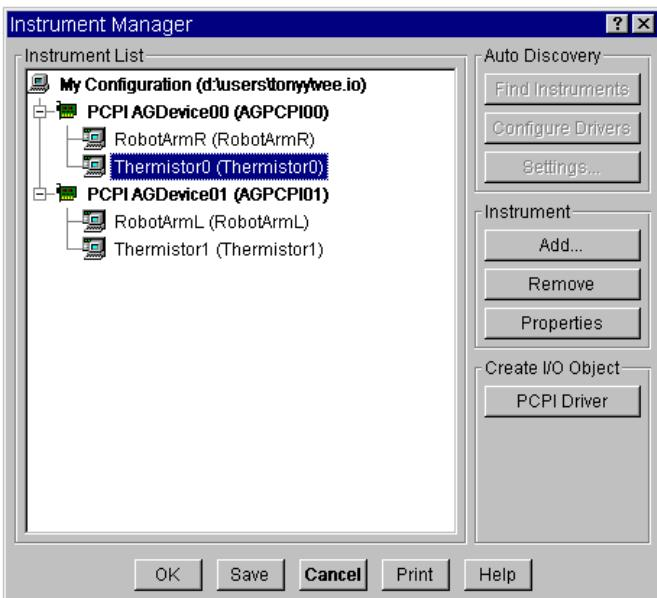

Figure 3-23. ODAS Driver Entries in Instrument Manager
1. Select I/O ⇒ Instrument Manager Select Find Instruments. The Instrument Manager displays entries similar to those shown in Figure 3-23.